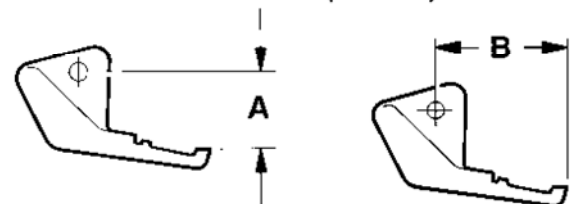

FIG. 25
4. Visually aligning the centers as in Step 3 should be accurate within .010" [.25 mm]. See FIG. 25. When grinding greens mower bedknives, it is more critical that the two centers be parallel with the carriage rails, and visual alignment may not be adequate.